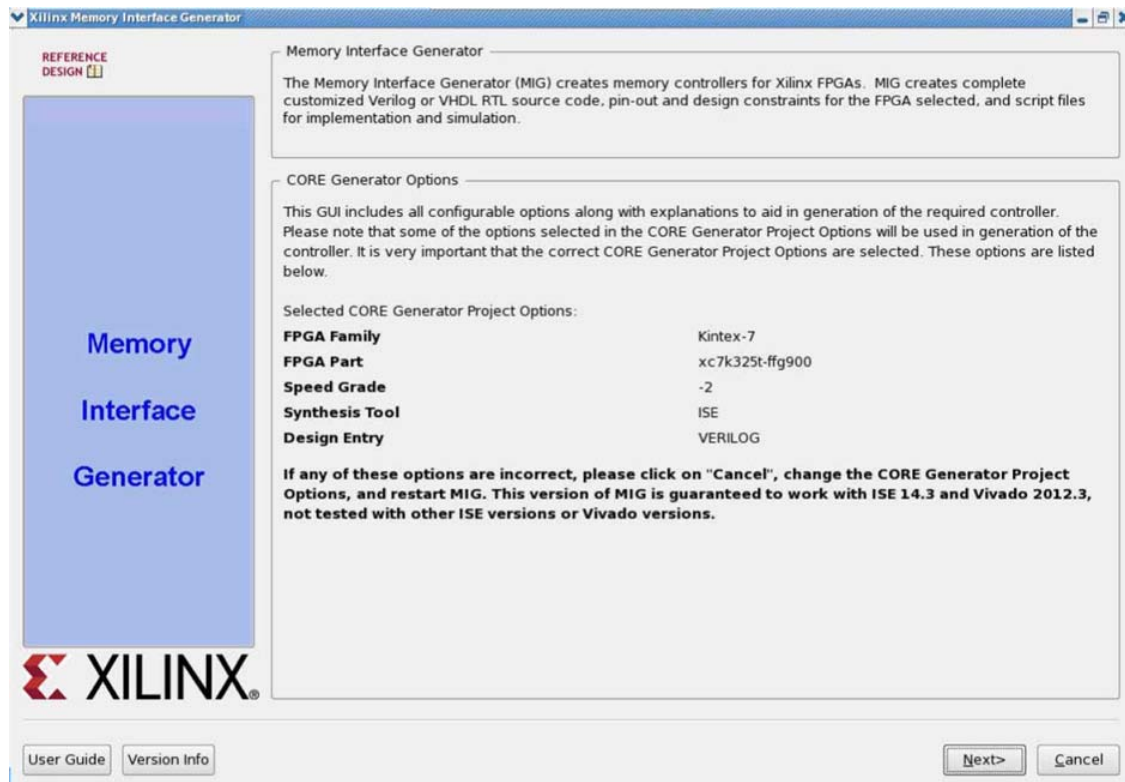

Figure 4-13: 7 Series FPGAs Memory Interface Generator FPGA Front Page
13. Select **MIG 7 Series** to open the MIG tool (Figure 4-13).